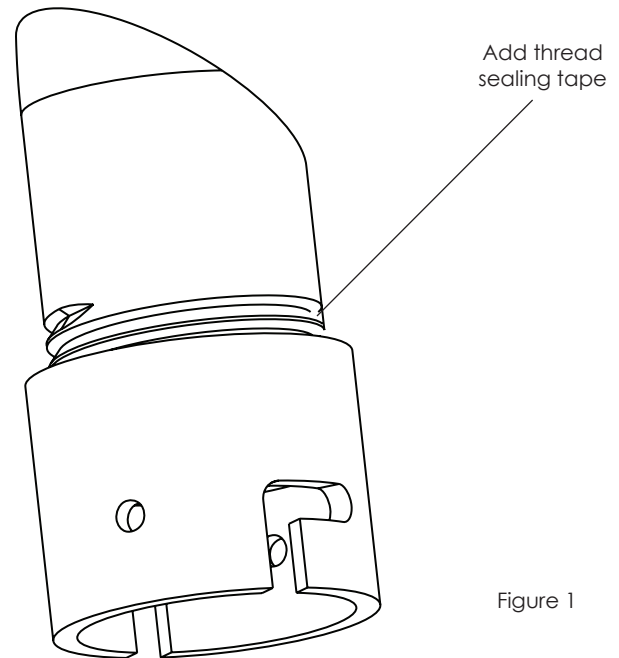

Figure 1
4. Pipe threads should be clean and rust free. Although a hermetic connector protects the inside of the enclosure from all moisture, it is still recommended that a thread sealer be used on the threads of the housing coupling. Attach the housing coupling to the bracket or pendant pipe (Figure 1).